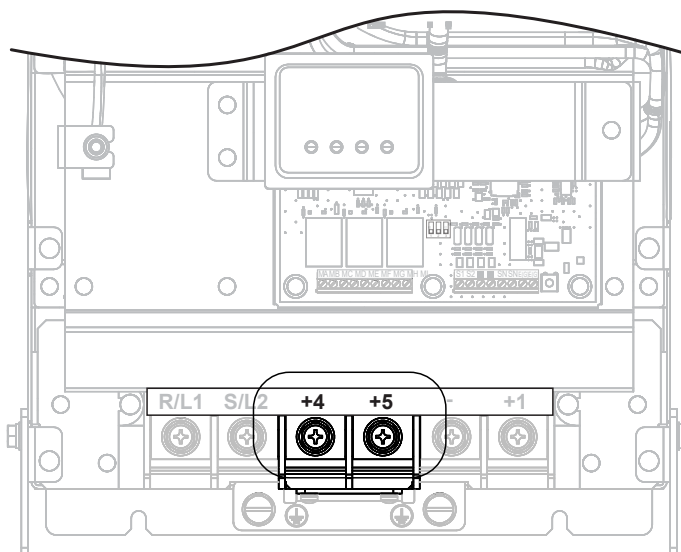
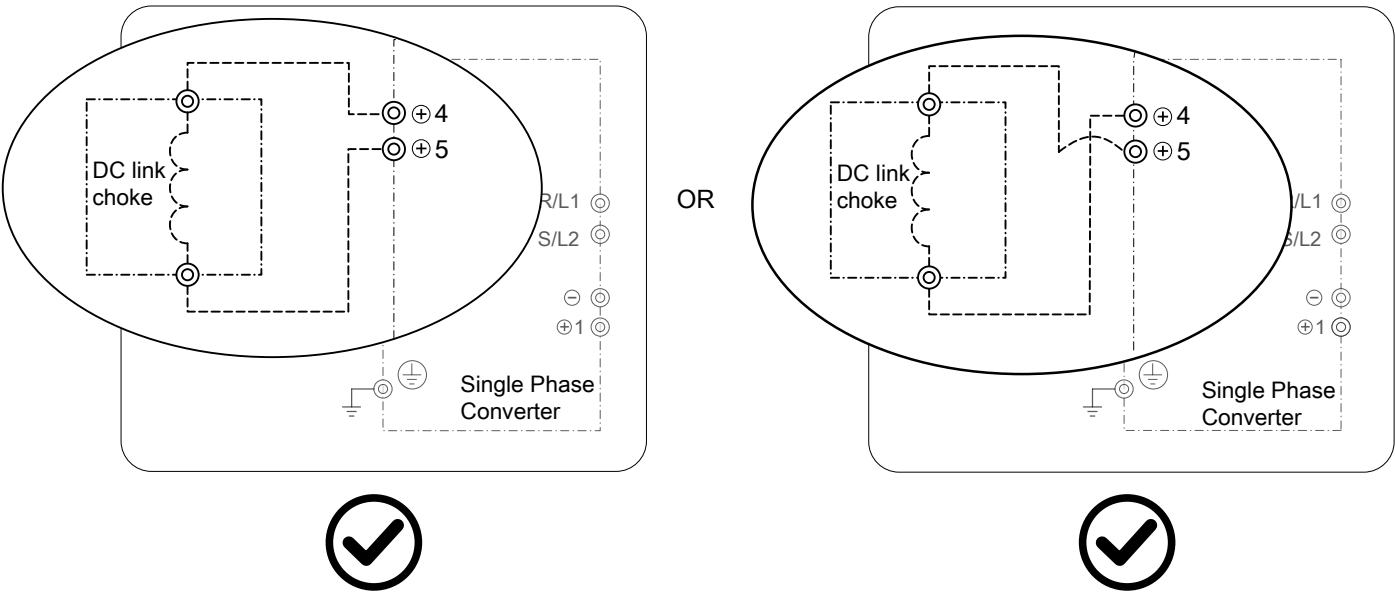

Figure 4.3 Converter Terminal 4 & 5
Figure 4.4 DC Link Choke Wiring
3. Connect the DC link choke according to Figure 4.3 and Figure 4.4. The DC link choke terminals are not polarized and can be connected to either terminal.